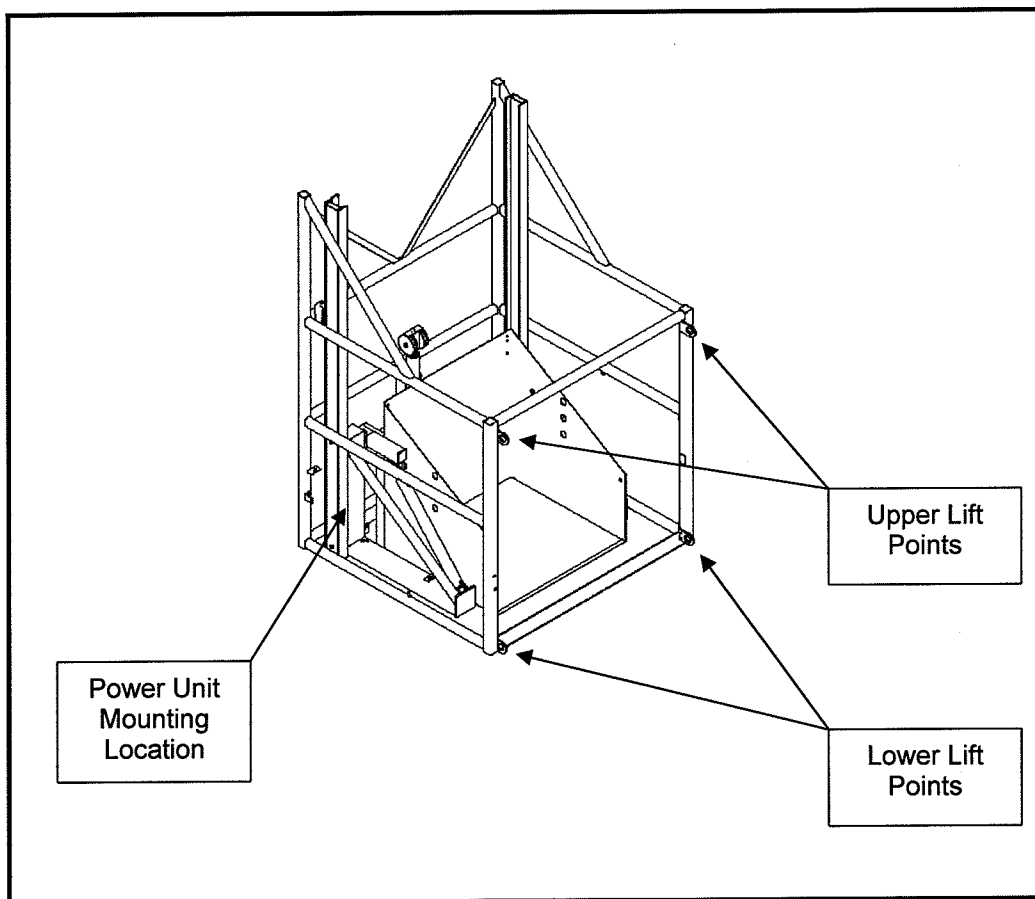

Fig. 2
3. Remove the two (2) chains or straps from the lower lift points, (see figure 2).
6. Typically, there are four (4) lag down locations on the base frame.
7. Power unit is shipped loose and will need to be mounted to the location as shown in figure 2.